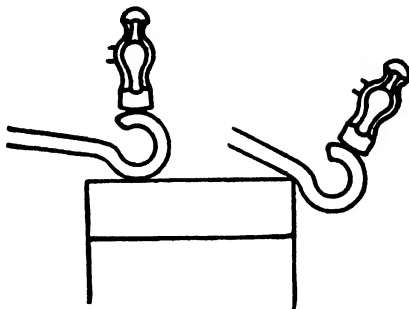

FIG. 21
4. If the eye is not circular, slip it over the horn as far as it will go and strike lightly until it is perfectly round. Fig. 21.